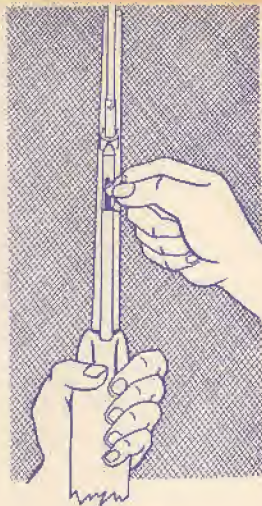

Figure 2
**TO LOAD MAGAZINE:** With safety on, turn knurled knob on inner magazine tube, pull tube out and insert cartridges into cartridge opening. (See figure 2.) continuing the operation until last cartridge is visible. Grasping knurled portion of inside magazine tube, press down with rotating action until inside magazine tube is fully home and located in supporting notch.